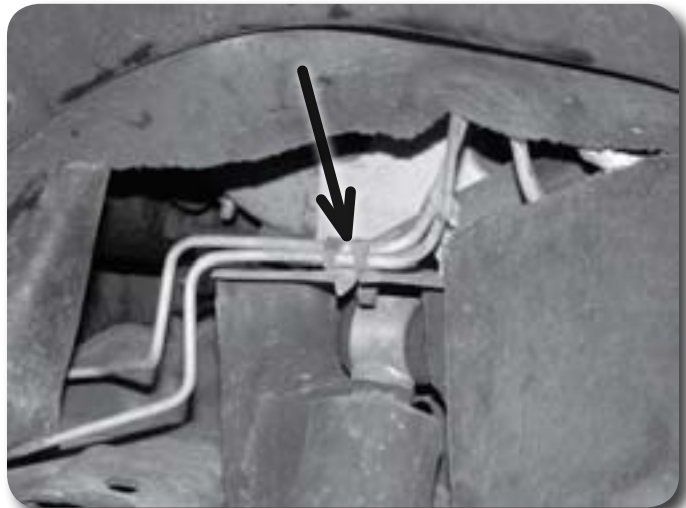

Figure 20
23. Remove the bolt mounting the brake lines to the driver's side shock mount Figure 20.